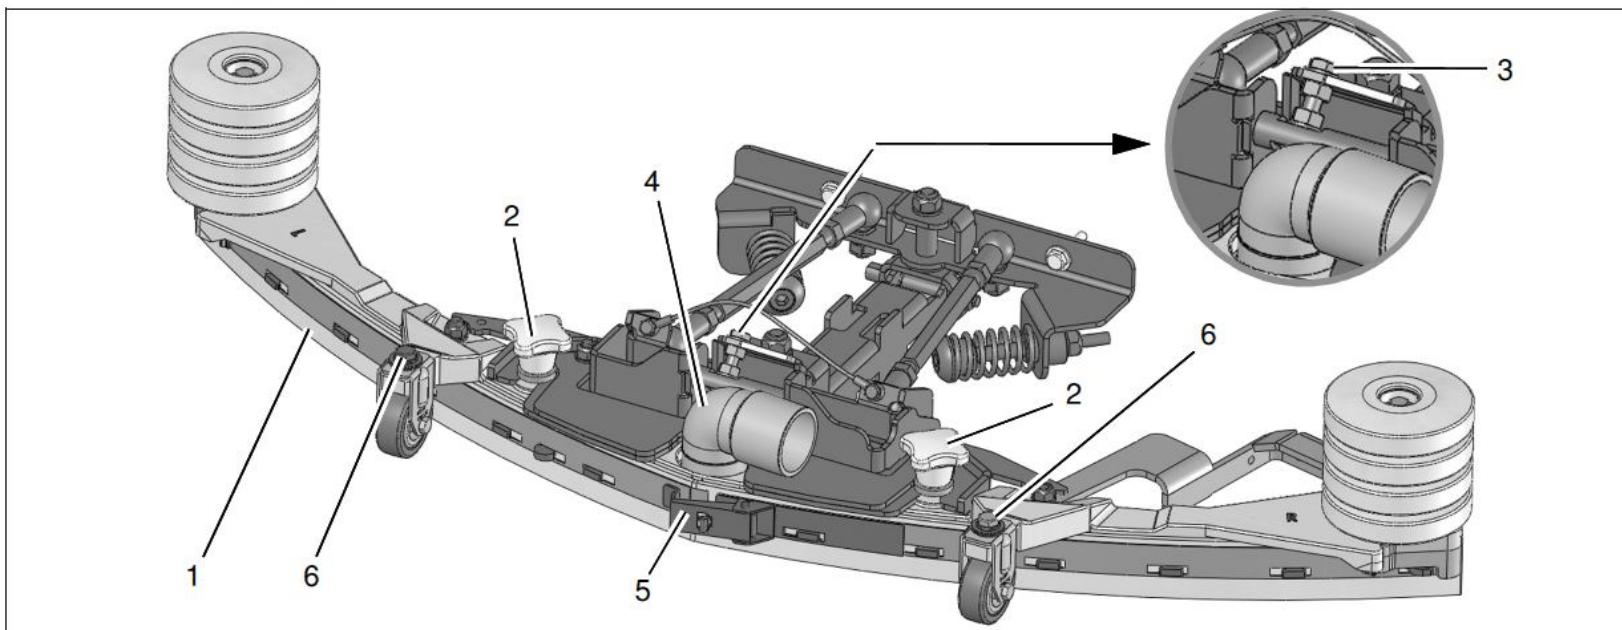
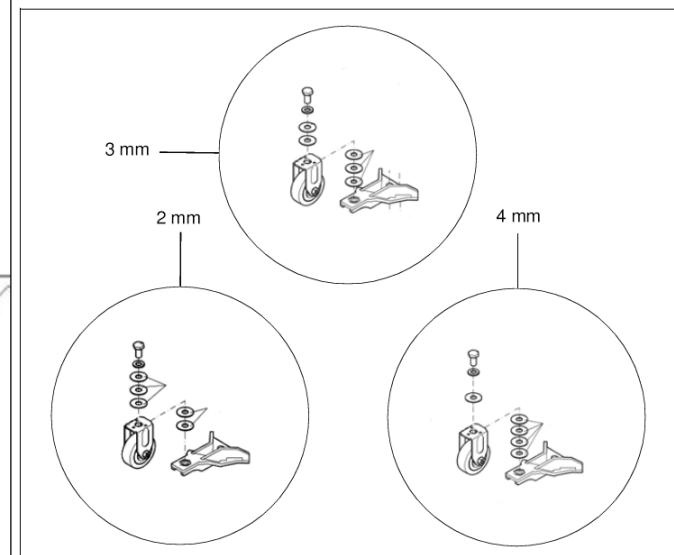

Fig. 7.1
Fig. 7.3
2. Loosen the counternut on the screw (Fig. 7.1/3) and use the counternut to adjust the squeegee so that the ends of the sealing strips just make contact with the floor.
The height adjustment is set to 3 mm at the factory. If, despite an optimum angle adjustment, streaks are produced, the distance between the rollers and floor must be adjusted by altering the number of washers (Fig. 7.1/6 / Fig. 7.3) on the holder.